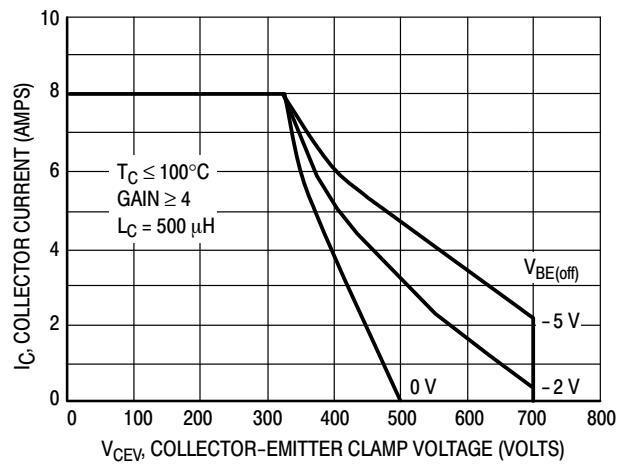

Figure 7. Maximum Reverse Bias Switching Safe Operating Area
| Clamped Inductive SOA with Base Reverse Biased              | –                | See Figure 7 |  |  |  |
Use of reverse biased safe operating area data (Figure 7) is discussed in the applications information section.
For inductive loads, high voltage and current must be sustained simultaneously during turn-off, in most cases, with the base to emitter junction reverse biased. Under these conditions the collector voltage must be held to a safe level at or below a specific value of collector current. This can be accomplished by several means such as active clamping, RC snubbing, load line shaping, etc. The safe level for these devices is specified as a Reverse Bias Safe Operating Area (Figure 7) which represents voltage-current conditions that can be sustained during reverse biased turn-off. This rating is verified under clamped conditions so that the device is never subjected to an avalanche mode.
3. The base drive conditions are within the specified limits shown on the Reverse Bias SOA curve (Figure 7).